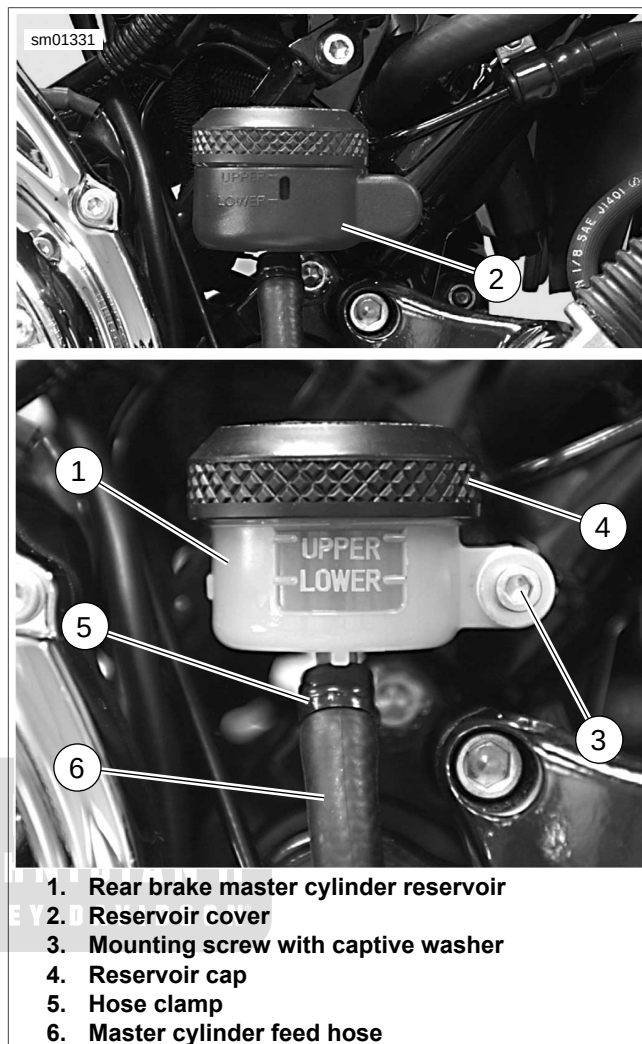
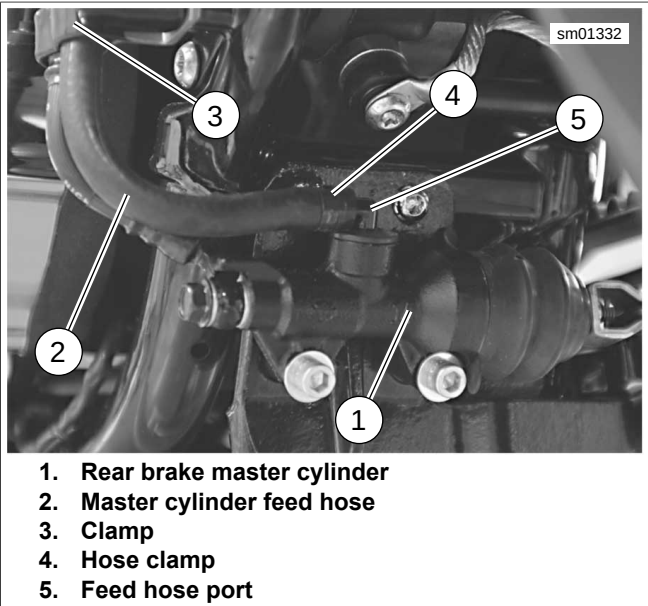

Figure 2-97. Reservoir Mount
Figure 2-98. Master Cylinder Feed Hose
2. See Figure 2-97. Grasp reservoir cover (2) and gently pull straight out from reservoir (1).
3. Remove screw with captive washer (3).
4. Remove reservoir cap (4). Hold reservoir upside down over a suitable container and drain brake fluid.
5. Loosen hose clamp (5). Pull feed hose (6) from reservoir. Slide hose clamp off free end of feed hose.
6. See Figure 2-98. Slide feed hose (2) down through clamp (3). Hold free end of hose down over container and drain any brake fluid remaining in hose.
7. Loosen hose clamp (4). Pull feed hose off feed hose port (5) on master cylinder (1).
- See Figure 2-98. Slide end of feed hose (2) onto feed hose port (5) on master cylinder (1). Secure feed hose to fitting with hose clamp (4).
- Slide free end of feed hose up through clamp (3).
- See Figure 2-97. Slide hose clamp (5) onto free end of feed hose (6).
- Push feed hose onto fitting on reservoir (1). Secure with a hose clamp.
- Install reservoir using screw with captive washer (3). Tighten to 20-25 in-lbs (2.3-2.8 Nm).
- Install reservoir cover (2).